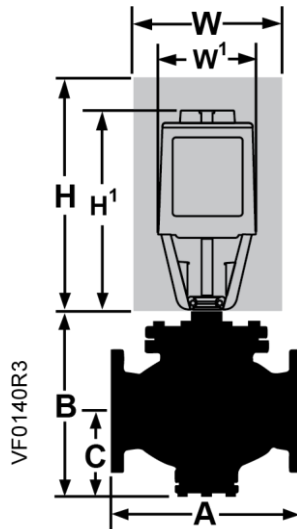

Figure 7. Dimensions.
- Allow sufficient space for servicing the valve and actuator. See Table 14 for valve body dimensions. See Table 13 and Figure 7 for dimensions of the service envelope recommended around the actuator.